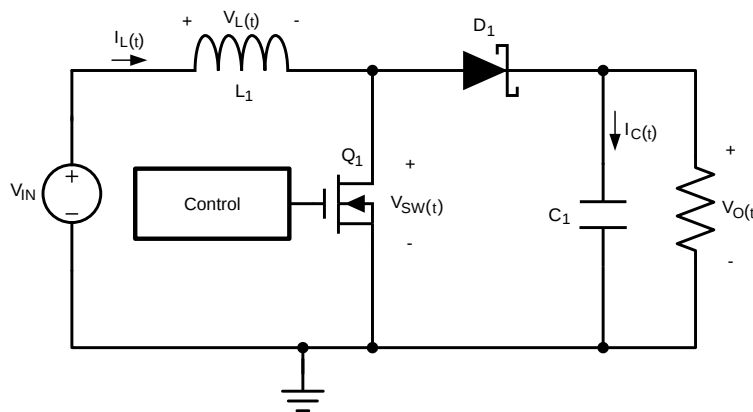

Figure 13. Simplified Schematic
The LM2735-Q1 is a constant-frequency PWM boost regulator IC that delivers a minimum of 2.1 A peak switch current. The regulator has a preset switching frequency of either 520 kHz or 1.6 MHz. This high frequency allows the device to operate with small surface mount capacitors and inductors, resulting in a DC/DC converter that requires a minimum amount of board space. The LM2735-Q1 is internally compensated, so it is simple to use, and requires few external components. The device uses current-mode control to regulate the output voltage. The following operating description of the LM2735-Q1 refers to the simplified internal block diagram (Functional Block Diagram), the simplified schematic (Figure 13), and its associated waveforms (Figure 14). The LM2735-Q1 supplies a regulated output voltage by switching the internal NMOS control switch at constant frequency and variable duty cycle. A switching cycle begins at the falling edge of the reset pulse generated by the internal oscillator. When this pulse goes low, the output control logic turns on the internal NMOS control switch. During this on-time, the SW pin voltage (V_{SW}) decreases to approximately GND, and the inductor current (I_L) increases with a linear slope. I_L is measured by the current sense amplifier, which generates an output proportional to the switch current. The sensed signal is summed with the corrective ramp of the regulator and compared to the error amplifier's output, which is proportional to the difference between the feedback voltage and V_{REF} . When the PWM comparator output goes high, the output switch turns off until the next switching cycle begins. During the switch off-time, inductor current discharges through diode D1, which forces the SW pin to swing to the output voltage plus the forward voltage (V_D) of the diode. The regulator loop adjusts the duty cycle (D) to maintain a constant output voltage.